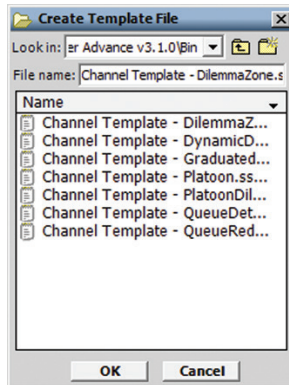

Figure 10.2 – Create Template File Screen
- 2 Specify the file to be created by clicking on the file icon (see Figure 10.2).